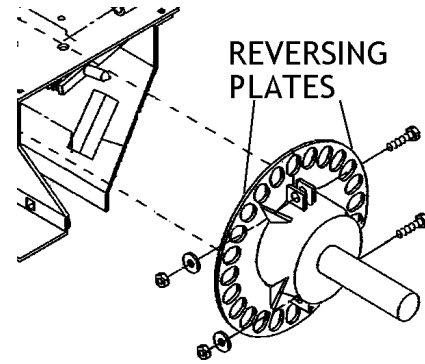

Figure 19 - Reversing Plate Installation
- 30 On both ends of crosstube, position reversing plates vertically against weldment on each side of crosstube. **Figure 19.**
- 31 Bolt reversing plates together using 3/8" x 1-3/4" bolts and 3/8" lockwashers and nuts. Tighten using 9/16" wrench. **Figure 19.**